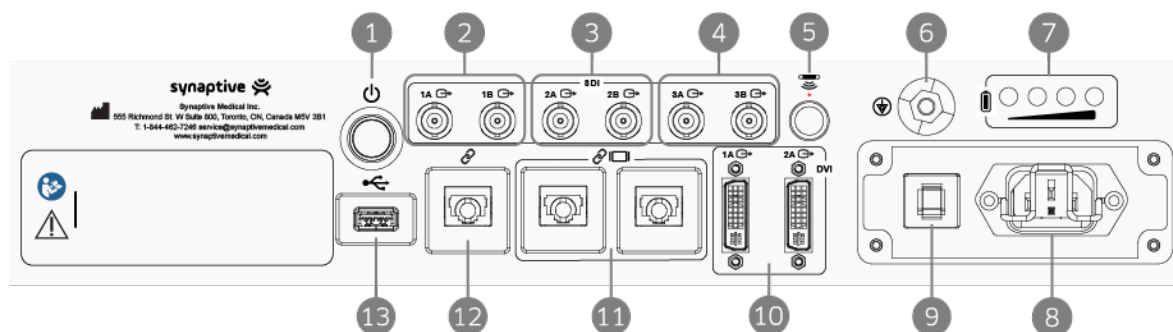

Figure 4 Modus X I/O panel
Do not use the Ethernet ports (items 11 and 12 in Figure 4) to connect Modus X to any system other than the monitors and the Modus Nav operator cart.
The USB port (item 13 in Figure 4) is for video, snapshot, and log file export purposes only. Do not use the USB port to connect any device other than a USB storage device to Modus X.